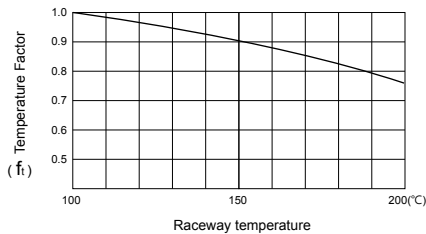

Fig 1.3.3 Temperature Factor (f_t)
f_t : Temperature factor (Fig1.3.3)
- f_t : temperature factor (Fig 1.3.3)